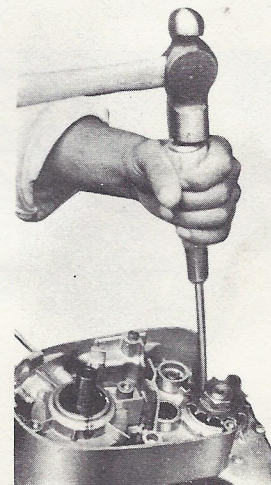

Fig. 3-13-1
- a. Straighten the bent edge of the locking washer with a screw driver or a chisel. (Fig. 3-13-1)